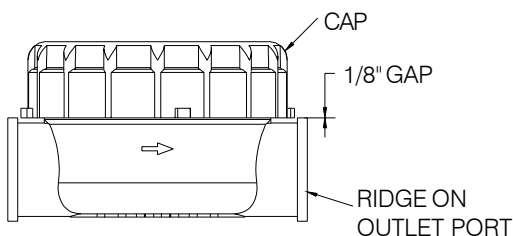

Figure 6
5. Thread on meter cap until hand tight. To check tightness, there should be 1/8" gap between cap and ridge on outlet port. (See Figure 6).